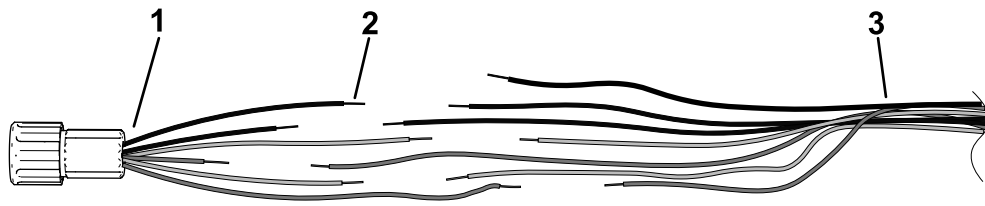

Figure 5
2. Stagger the ends of the harness wires slightly to avoid splices from being in one location or section of the harness; refer to Figure 5.
3. Cut the wires on the new adapter to the appropriate length (Figure 5).
4. Strip off approximately 9.5 mm (3/8 inch) of insulation from the 6 adapter wires and 7 harness wires (Figure 5).